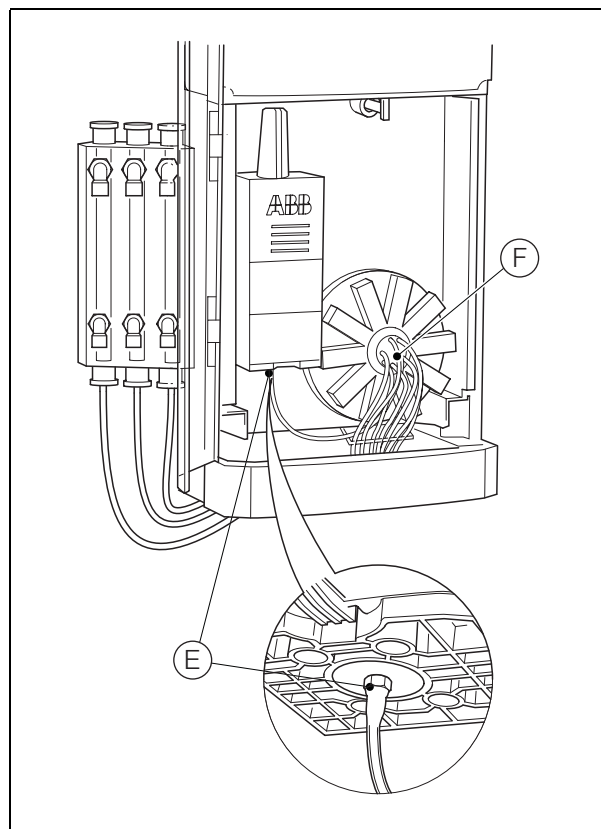

Fig. 12.6 Replacing Interconnecting Tube
3. Referring to Fig. 12.6:
- Disconnect the interconnecting tube (recorded in Section 12.3.4, step 4a) from the connector (E) at the base of the measurement cell assembly and discard.
- Fit the new interconnecting tube to the valve manifold center connection (F).
2. Referring to Fig. 12.6, connect the new interconnect tube to the connector (C) at the base of the measurement cell assembly.